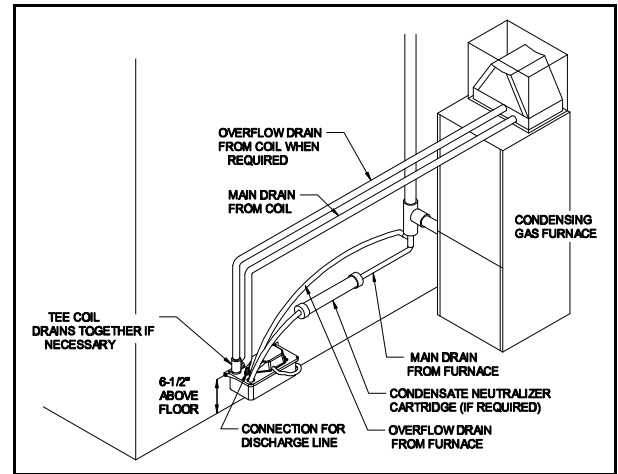
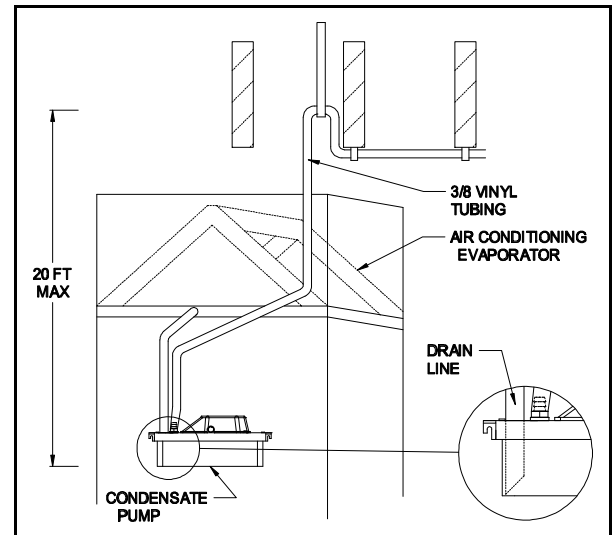

Figure 1
Figure 2
3. The pump should be mounted so the deck is at least 6 1/2" above the floor. (See Figure 1) This will allow clearance for the tank to be removed later for cleaning.
1. Run flexible tubing or pipe from the condensate drain on the evaporator pan and/or drain from furnace to one of the inlet holes on the pump. This drain line should have a continuous downward slope to allow gravity flow. Cut the end of the line at an angle so the end does not close off on the bottom of the pump's tank. (See Figure 2) **NOTE:** *If there is an overflow drain from the evaporator pan or from the furnace, it may be necessary to tee the overflow and the main drain together before they enter the pump.* (See Figure 1)
2. Connect a discharge line to the barbed check valve on top of the pump. This line may be flexible tubing or rigid pipe, but must be no larger than 3/8" I.D. Extend the discharge line straight up from the pump to the highest point possible without exceeding the head/GPH capacity of the pump before directing the line to the drain. From this high point, run the discharge line to a drain with a downward slope. For best results, the drain should be below or approximately level with the bottom of the pump tank. If it is not possible to slope the line downward, make an inverted "U" trap at the high point of the discharge line above the pump. (See Figure 2)